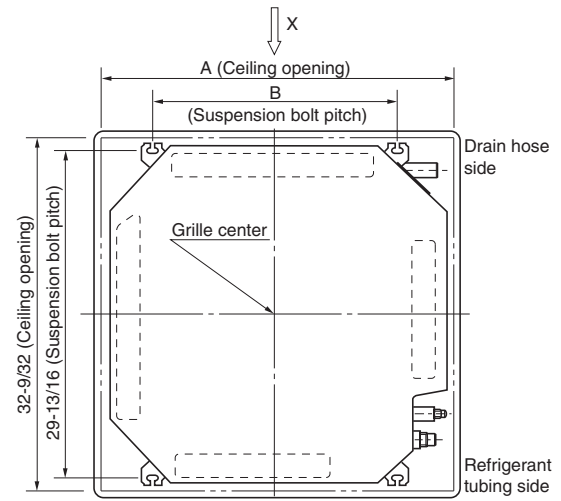

Fig. 1-47
- (2) Follow Fig. 1-47 and Table 1-8 to make the holes in the ceiling.